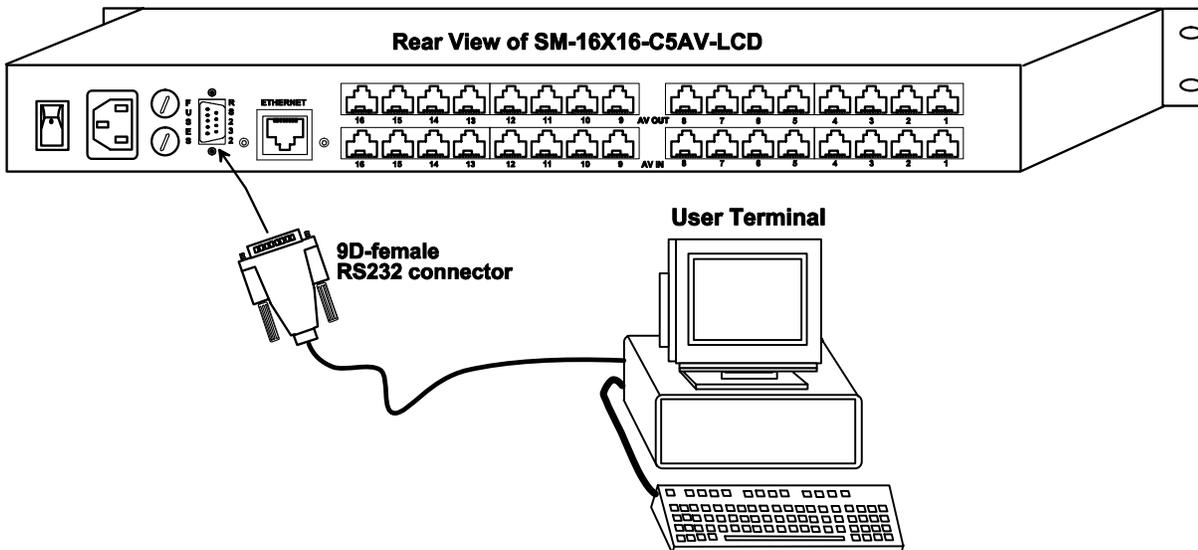

Figure 9- Connect user terminal to VEEMUX
Note: This total length of CAT5 cable between the ST-C5VA-600 Remote and Local units cannot exceed 600 feet. (See Fig. 9)
7. For direct connection of a user terminal, connect a null modem cable (specifications on page 25) between the user terminal and the 9 pin DIN male connector on the VEEMUX labeled RS232. (See Fig. 9) The user terminal will control the VEEMUX via the RS232 interface (page 13).